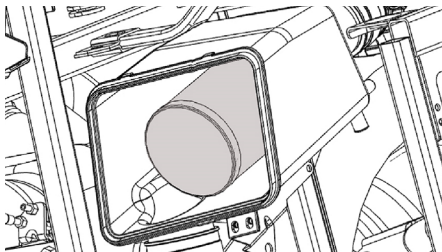

Figure 37
- Remove the air filter element (Figure 37).